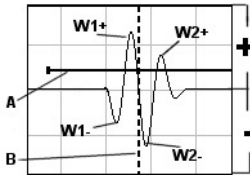
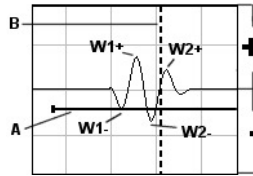

Figure 1
Figure 2
Referring to Fig.1. Notice that the height or amplitude of W1+ is greater than the height of W2+ from the zero crossing (centreline). These are the positive cycles (they are in the upper region). Now consider that the height of W1- is lower in amplitude than W2-. These are the negative cycles (they are in the lower region). With this in mind, the gauge uses a zero crossing (Flank) style of detection. Therefore, the detection will always occur to the right side of the positive or negative cycle being detected. With this said, the detection in Fig.1 (B) is occurring on the zero crossing of the positive first cycle W1+. In this example, the correct (positive) polarity has been selected.
Why? Referring to Fig.2. Notice that when the bolt is tightened, the signal amplitude has decreased due to the applied stress, and a peak jump has occurred from W1- to W2- at (B). If we look at the height of W1- it has a much lower amplitude than W2-. Therefore, when stress was applied to the bolt, the amplitude of W1- was decreased beyond the threshold (A) and the gauge jumped to the next available signal with sufficient amplitude. However, this could never happen in Fig.1. This is because W1+ has more amplitude than W2+, and a peak jump could never occur without losing the signal entirely.
If a situation does occur, as in Fig.2 above, and you are able to notice the peak jump during the process of loading, increasing the gain or lowering the threshold will generally correct the error. However, if it goes unnoticed, all your measurements will be in error. Therefore, it is critical that you take the necessary time to select the proper polarity in the initial setup process.